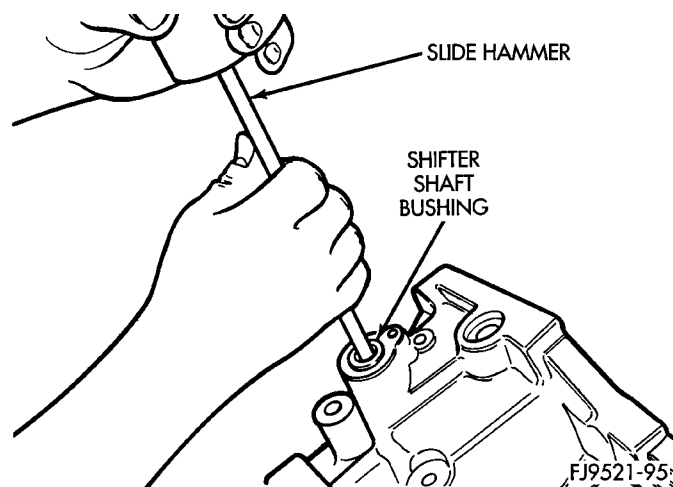

Fig. 137 Crossover Shaft Bushing Removal
- (1) Install slide hammer #3752 through the crossover bushing.
- (2) Thread nut and washer onto slide hammer.
- (3) Using the slide hammer, remove the crossover shaft bushing (Fig. 137).